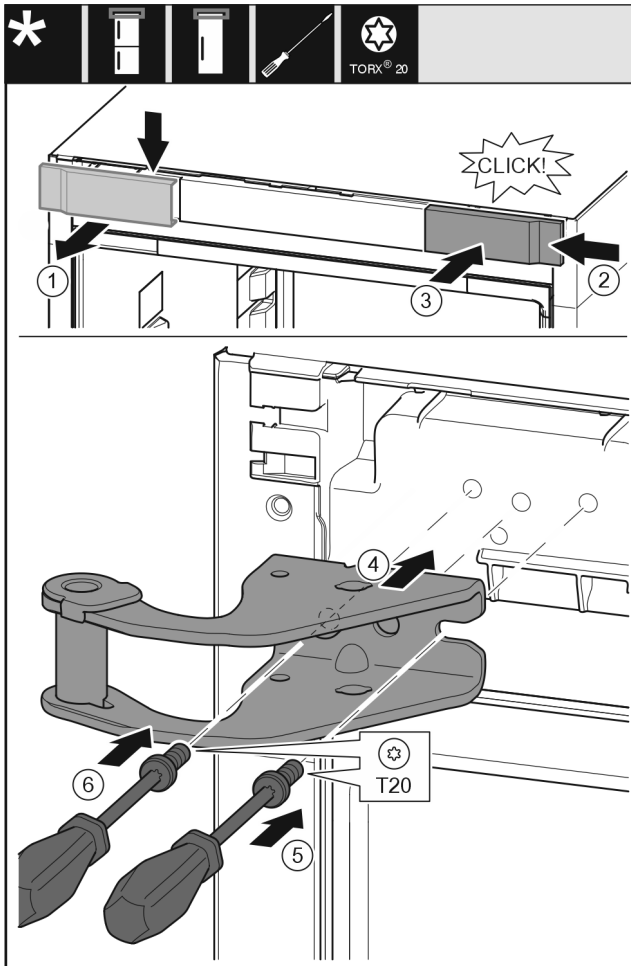

Fig. 12
- ▶ Take off the cover to the front from above. Fig. 12 (1)
- ▶ Rotate the cover 180° and clip onto the other side from the right. Fig. 12 (2)
- ▶ Latch the cover into place. Fig. 12 (3)
- ▶ Position the upper bearing bracket. Fig. 12 (4)
- ▶ Insert the screw with a T20 screwdriver and tighten it. Fig. 12 (5)
- ▶ Insert the screw with a T20 screwdriver and tighten it. Fig. 12 (6)